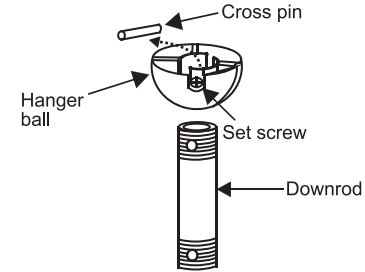

Fig. 9
Step 6. Remove the hanger ball from the downrod assembly by loosening the set screw, unscrewing and removing the cross pin and unscrewing the ball off the rod. (Fig.9)